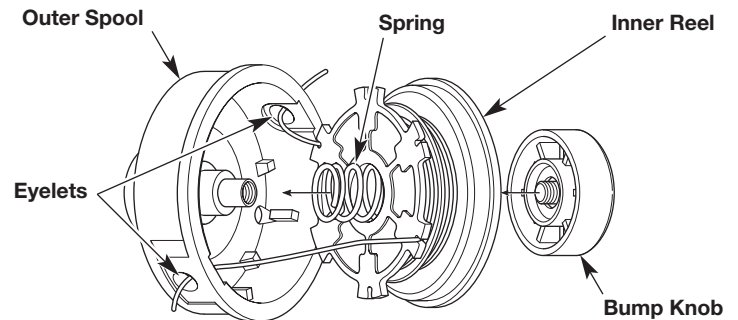

Fig. 21
1. Pass the two line ends through the eyelets in the outer spool. Place the spring inside the inner reel. Insert the inner reel into the outer spool. Push the inner reel and outer spool together (Fig. 21).